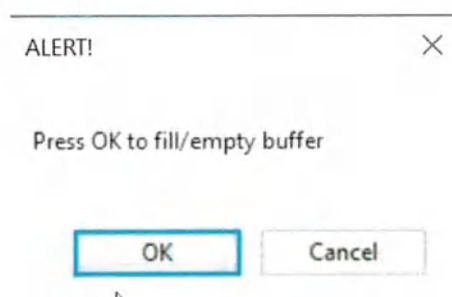
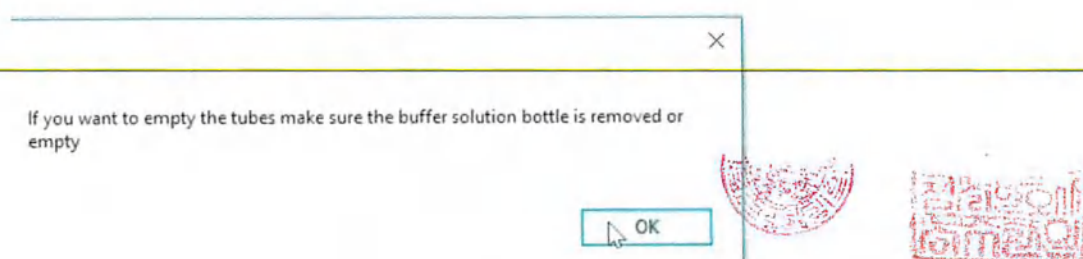

Figure 47
Figure 48
9.5.6.3 If you click on the Fill / Empty Buffer button in the Service form, a warning will appear below [Figure 47].
9.5.6.4 If you click the "OK" button on [Figure 47], the message below will appear [Figure 48].
9.5.6.5 If you press the "OK" button on [Figure 48], the nozzle (nozzle) will move to its original position and begin to suck in distilled water [Figure 49].